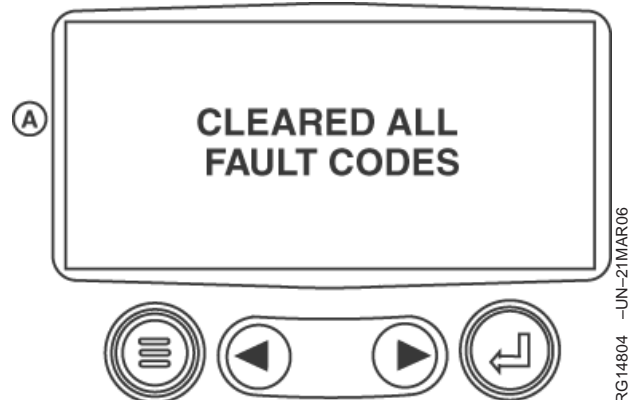

Figure 2. Cleared All Fault Codes Screen
4. Screen displays that stored fault codes have been cleared. (See figure 2.)